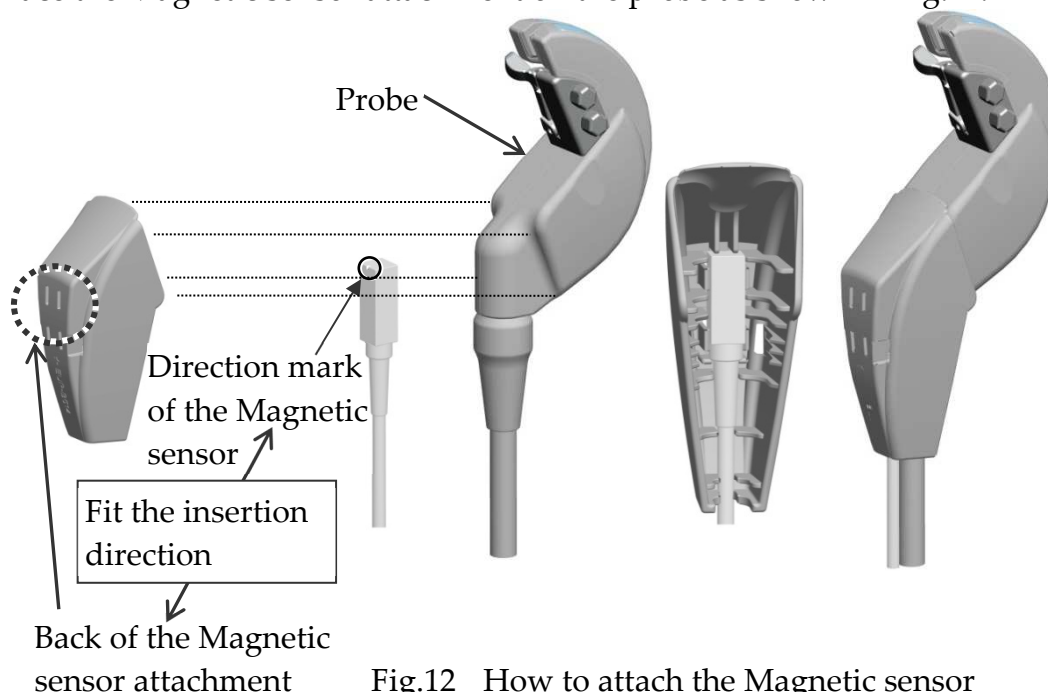

Fig.12 How to attach the Magnetic sensor
- a) Attach the Magnetic sensor into the probe with the correct direction as shown in Fig.12.
- b) Place the Magnetic sensor attachment on the probe as shown in Fig.12.